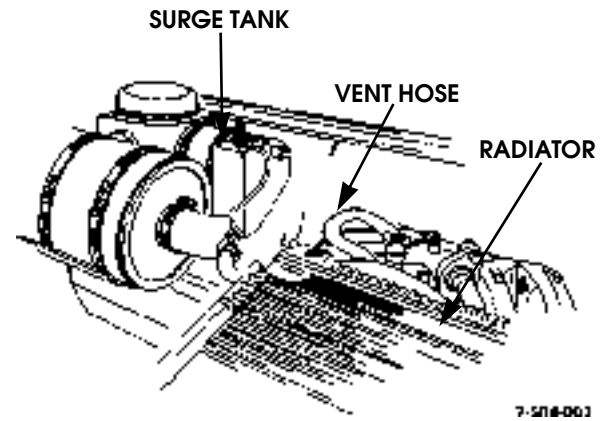

Figure 4-13: Surge Tank-to-Radiator Vent Hose Location
2. Loosen two clamps and remove radiator vent hose from radiator and surge tank (Figure 4-13).
1. Secure radiator vent hose to surge tank and radiator with two clamps (Figure 4-13).